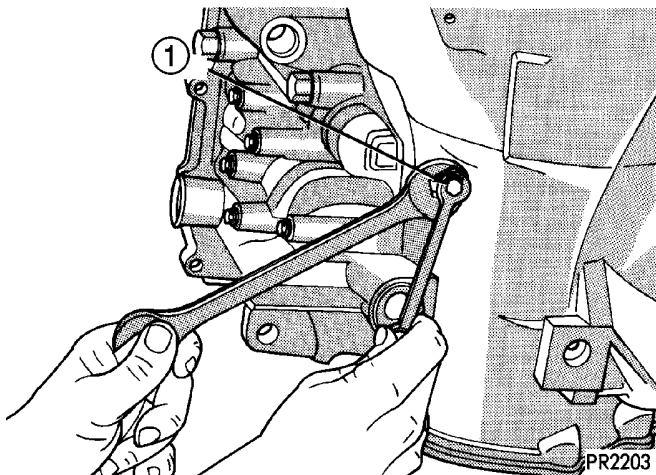

Fig. 68 Adjust Kickdown Band
(27) Install kickdown band strut.
(28) Torque kickdown band adjusting screw (Fig. 68) to 8 N·m (72 in. lbs.) torque. Back off adjusting screw 2¼ turns. Torque lock nut to 47 N·m (35 ft. lbs.).